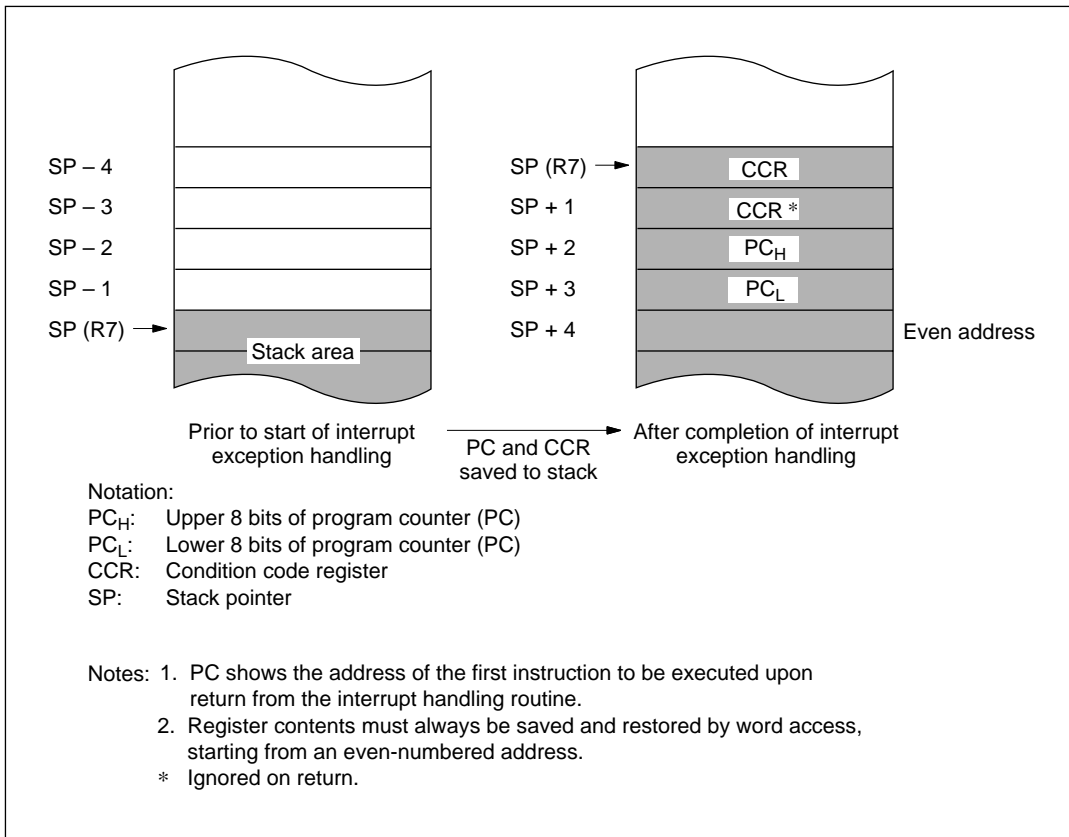

Figure 3-4 Stack State after Completion of Interrupt Exception Handling
- If the interrupt is accepted, after processing of the current instruction is completed, both PC and CCR are pushed onto the stack. The state of the stack at this time is shown in figure 3-4. The PC value pushed onto the stack is the address of the first instruction to be executed upon return from interrupt handling.